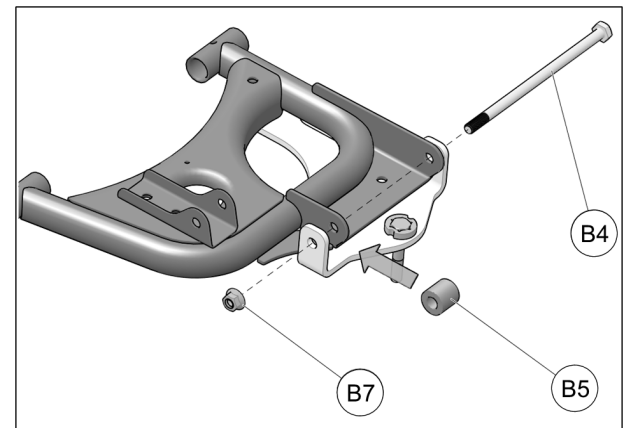

Fig. 8
7. Insert bushing (**B5**) between anchor bracket and a-arm and align all holes together. Bushing must be located on side of a-arm that faces rear of vehicle. Secure bracket, a-arm and wheel hub with new M10 bolt (**B4**) and M10 nut (**B7**). See Fig. 8